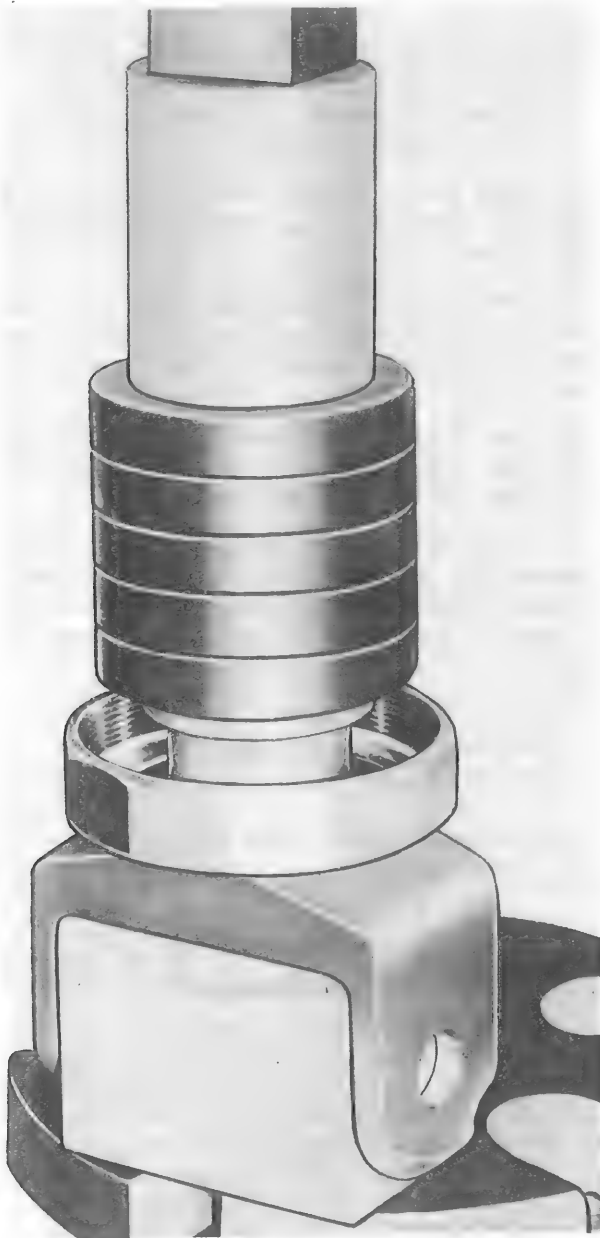

Figure 6-13. Pressing Stack Bearing Assembly on Spindle
a. Press stop (20) into spindle (19) with a suitable tool. Seal around edge of stop with sealing compound, EC-1239, manufactured by Minnesota Mining and Mfg. Co., St. Paul, Minn.
b. Apply a light coat of sealing compound, No. 101, manufactured by Garlock Packing Co., Palmyra, N. Y., to bore of outer nut (18) and press seal (17) into outer nut (18) with drift plate, part No. S1670-10304.
c. Position thimble, part No. S1670-10435, on spindle (19) and lightly coat it with corrosion-preventive petrolatum, Military Specification MIL-C-11796. Press outer nut (18) and seal (17) into place. Remove thimble.
d. Paint plug (15) with zinc-chromate primer, Military Specification MIL-P-8585, and press into position while wet.
e. Coat mating surface of spindle with anti-seize compound, Federal Specification TT-A-580. Press stack bearing assembly (16, figure 6-8) on spindle with bearing pusher, part No. S1670-10362 or S1570-10264. (See figure 6-13.)